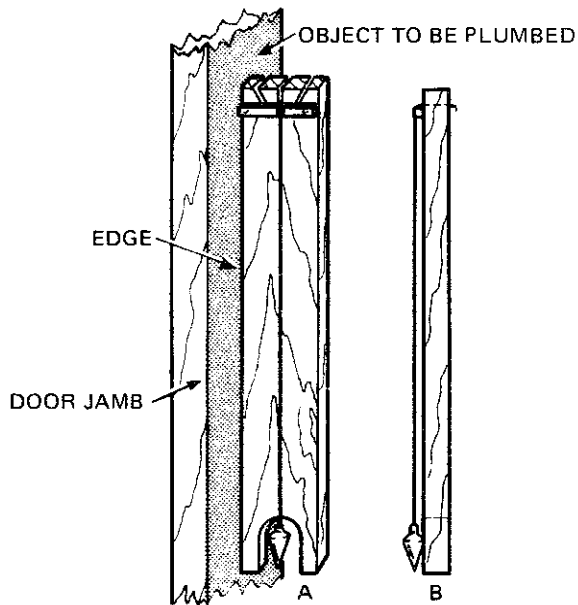

Fig. 5-13 Plumbing an object with a plumb rule
1. Hold the edge of the plumb rule against the surface to be plumbed (see A, figure 5-13), so that the plumb line hangs uniformly about 1/4 inch from the surface of the plumb rule. See B, figure 5-13.